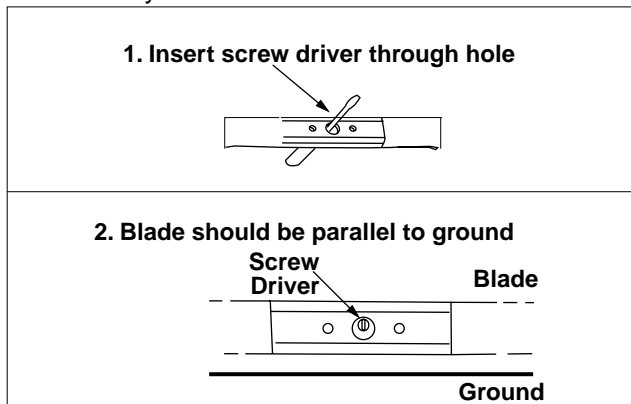

Figure 10
- An unbalanced blade will cause excessive vibration when rotating at high speeds and may cause damage to the unit. The blade can be tested for balance by balancing it on a round shaft screwdriver or nail. Remove metal from the heavy side until it is balanced evenly. **See Figure 10**